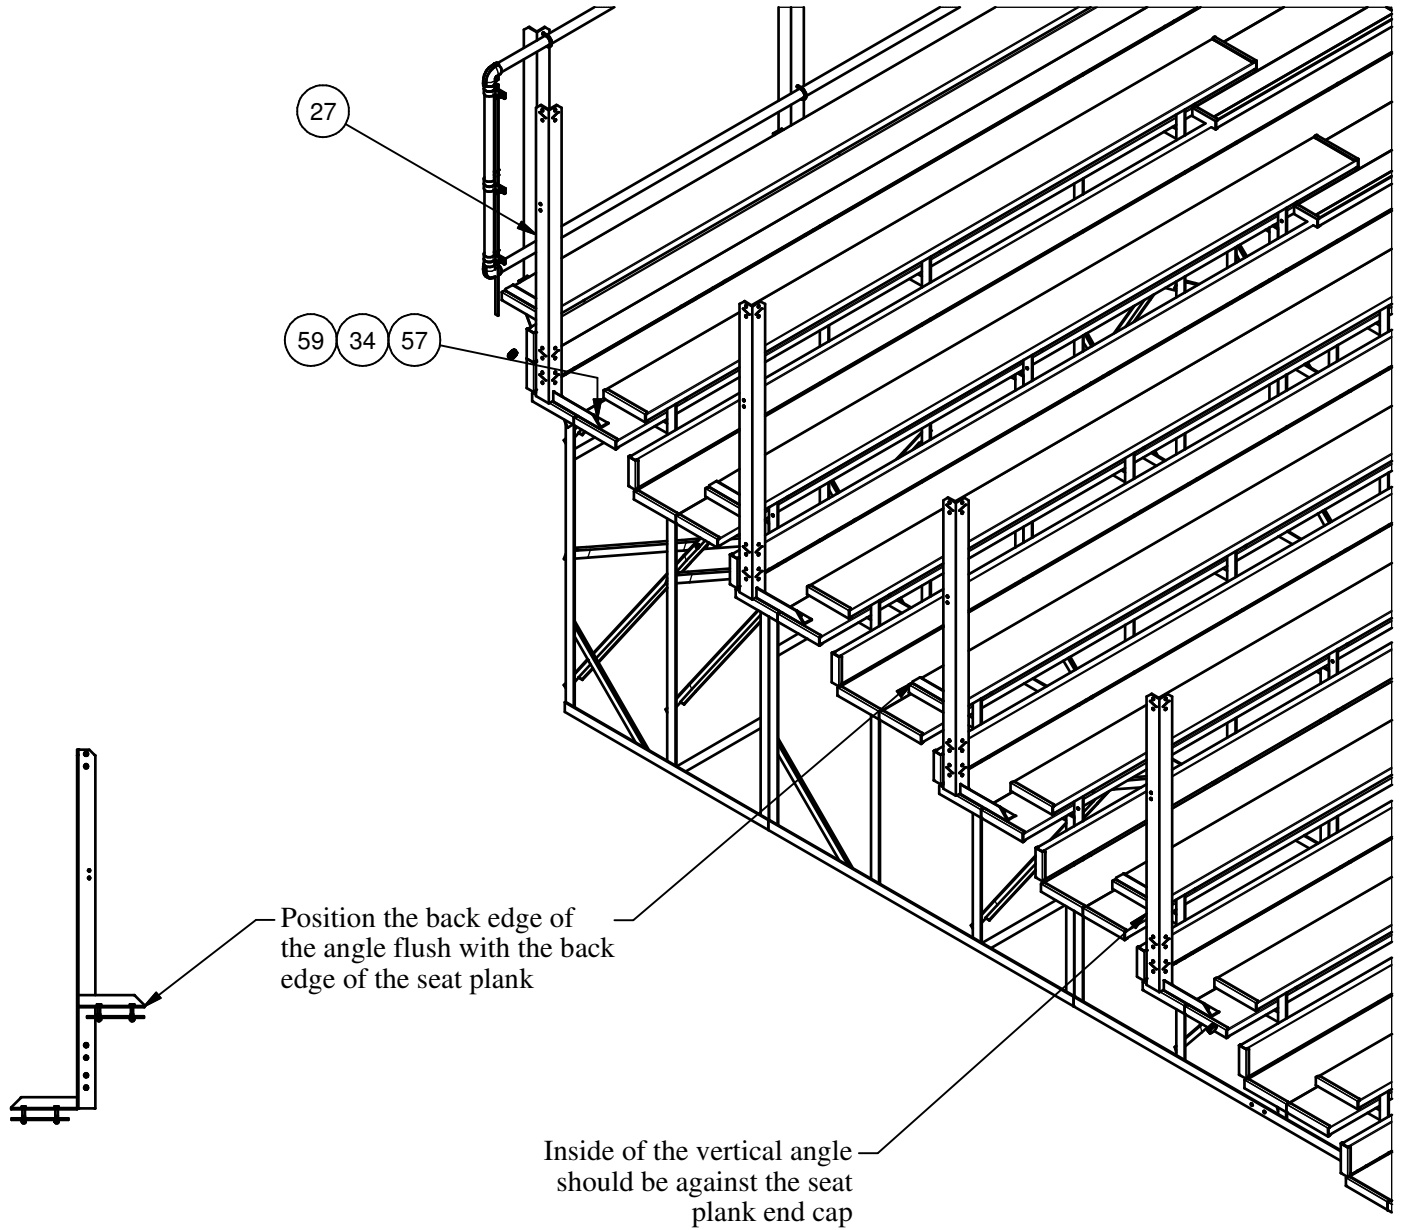

Figure 12
18. Install the RH side rail weldments onto the end of the bleacher. Locate one vertical on the top row, 8th row, 6th row, and on the 4th row. Position the verticals as shown in Figure 12. Using the holes in the angles, drill the four 3/8" holes through the seat plank (2 holes) and the foot planks (2 holes). Attach the verticals using the 3/8" x 2.5" hex bolts and 3/8" whizlock nuts. Make sure the clamp plate is placed on the underside of the plank before installing the nuts. Tighten all bolts and nuts securely.